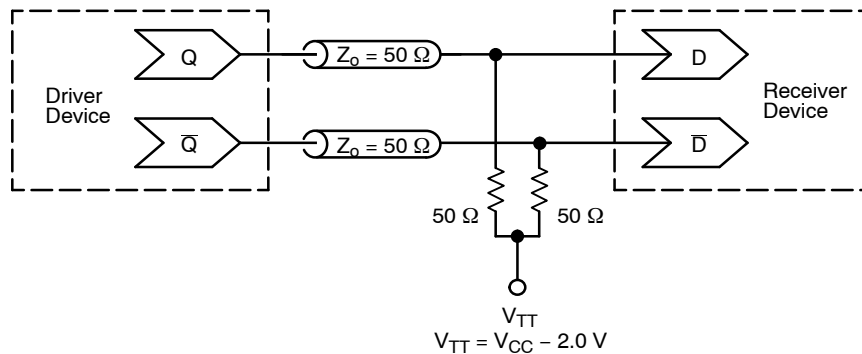

Figure 10. Typical Termination for Output Driver and Device Evaluation
- All loading with 50  $\Omega$  to  $V_{CC} - 2.0\text{ V}$  (see Figure 10).
9. All loading with  $50\ \Omega$  to  $V_{CC} - 2.0\text{ V}$  (see Figure 10).
12. All loading with  $50\ \Omega$  to  $V_{CC} - 2.0\text{ V}$  (see Figure 10).
15. All loading with 50  $\Omega$  to  $V_{CC} - 2.0\text{ V}$  (see Figure 10).
18. All loading with 50  $\Omega$  to  $V_{CC} - 2.0\text{ V}$  (see Figure 10).
20. Measured using a 750 mV source, 50% duty cycle clock source. All loading with 50  $\Omega$  to  $V_{CC} - 2.0\text{ V}$  (see Figure 10).